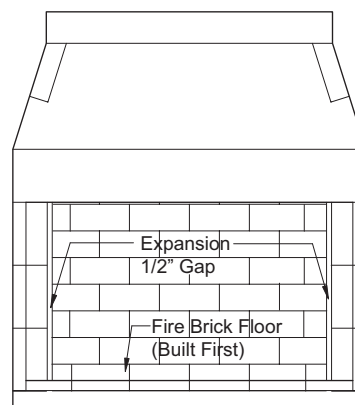

FIGURE 65
4. Next, apply firebrick to the back wall of the unit. The back wall firebrick covers the 1/2" expansion gap left at the brick floor along the back wall of the firebox. (Figure 65)